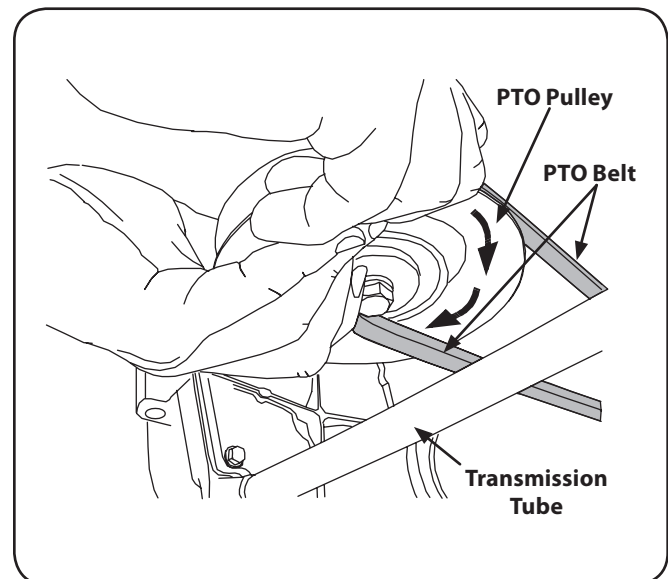

Figure 7-5
4. While still holding the belt downward, continue turning the PTO pulley until the belt is rolled off the pulley. Refer to Fig. 7-5.
4. Pull the right side of the belt rearward and place the narrow V side of the belt into the PTO pulley. See Fig. 7-5.
5. While holding the belt and pulley together, rotate the pulley to the left (See Fig. 7-5). Continue holding and rotating the pulley and belt until the belt is fully rolled into the PTO pulley.